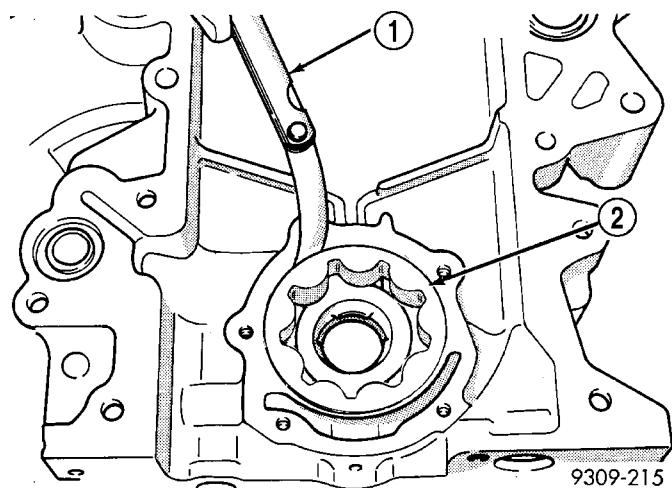

Fig. 110 Measuring Outer Rotor Clearance in Housing
(5) Install outer rotor into chain case cover. Press rotor to one side with fingers and measure clearance between rotor and chain case cover (Fig. 110). If measurement is 0.39 mm (0.015 in.) or more, replace chain case cover, only if outer rotor is in specification.